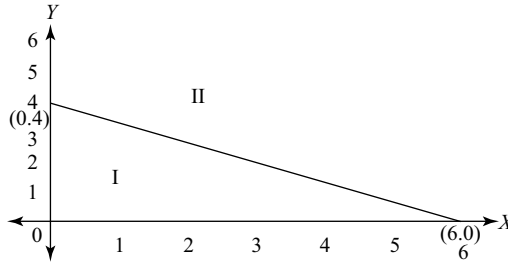

Fig. 1.5
- Set of points below the line and above the corresponding portion of $x \geq 0$ and $y \geq 0$. It is denoted by (I) in Figure 1.5. In this region, we have set of points like (x, y) for which $2x + 3y < 12$.
- Set of points like (x, y) above the line segment for which $2x + 3y > 12$. It is denoted by (II) in Figure 1.5.
1.2(C) Graphical Solution of LPP